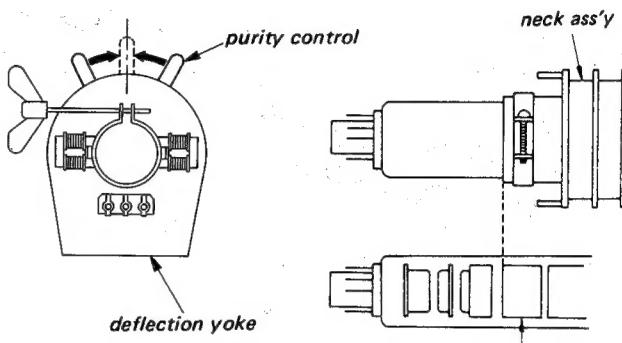

Fig. 1-1.
2. Adjust purity control as shown in Fig. 1-1.